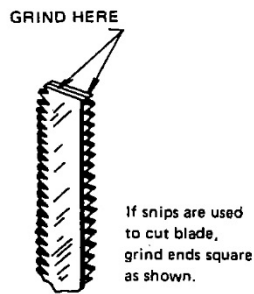

Figure 12
**IMPORTANT:** If a blade has been cut by using snips, the ends of the blade must be ground square before welding them together, as shown in Figure 12.